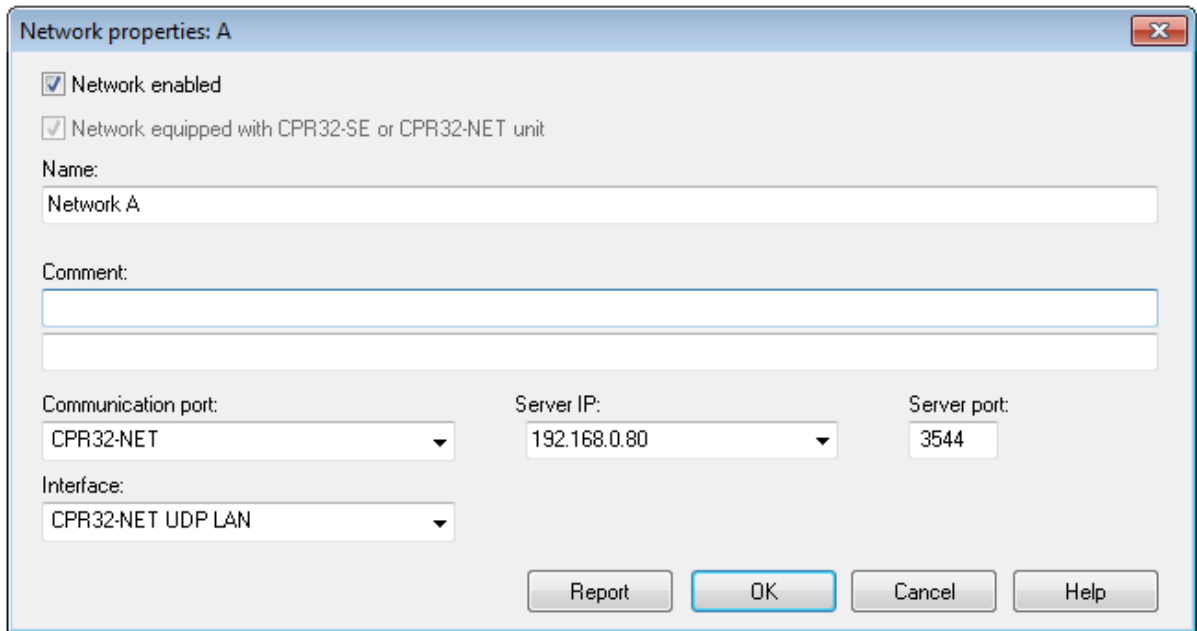

Fig. 3 Configuration of communication channel
2. In the opened window (see fig. 3), select the option **Communication port** and then select **CPR32-NET**.